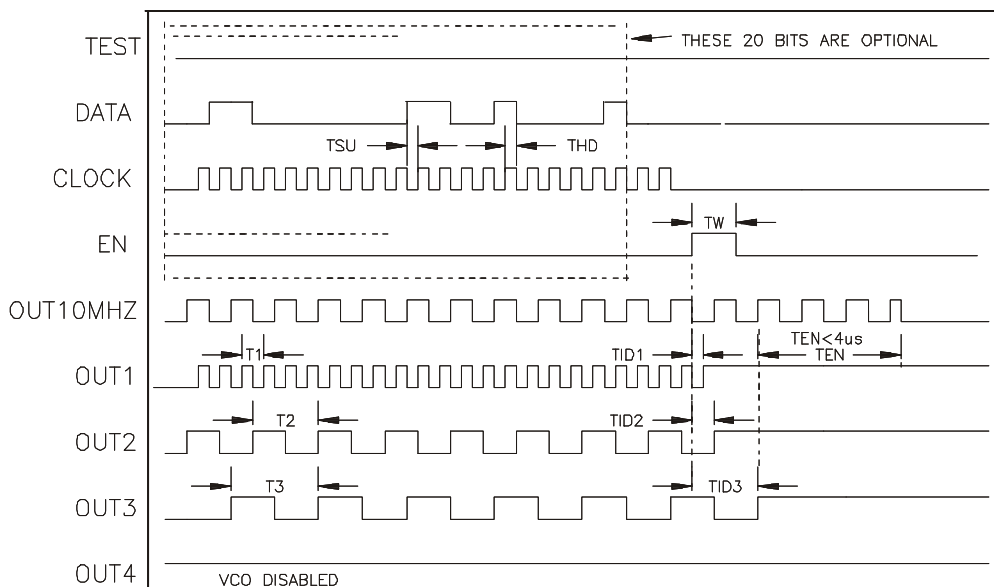

FIGURE 5 : PROGRAMMING TO DISABLE 10MHZ OSCILLATOR
**REF0 =0** : (Timing diagram figure 5)